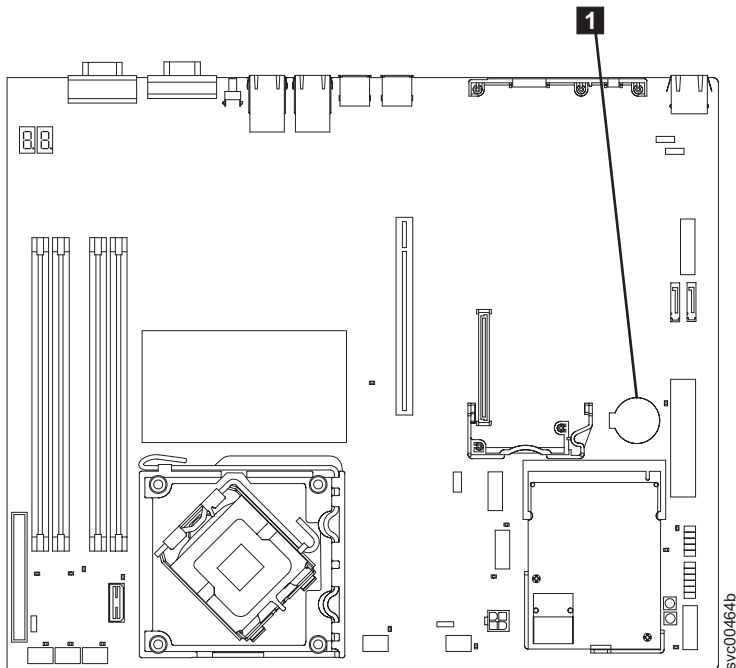

Figure 140. Locating the SAN Volume Controller 2145-8A4 CMOS battery
- 1 in Figure 140 on page 156 shows the location of the battery.